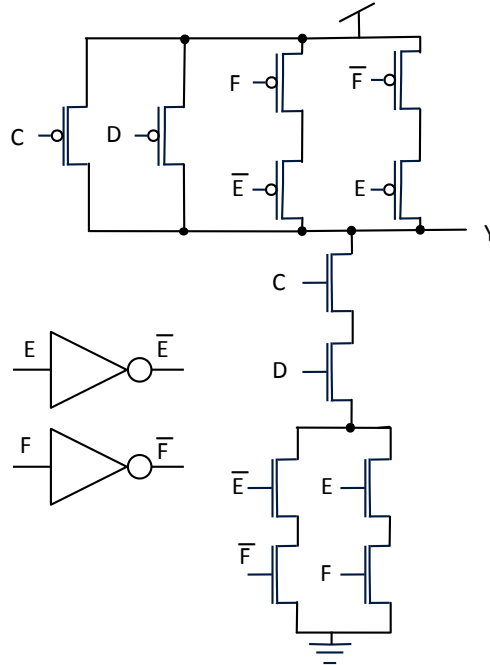
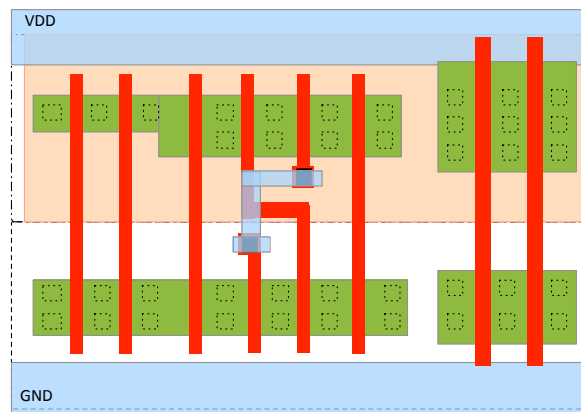

Figure 2: The schematic for a cell comprising one compound gate and two inverters.
Figure 3: Layout template for task 3 a). The template is repeated twice on tear-off sheets at the end of the exam.
Consider the cell shown in Fig 2, comprising a compound gate and two inverters. Your task is to complete the layout using the template in Figure 3. As you can see from the template two poly lines have to cross for the layout to be possible with single-line-of-diffusion for both the n-net and p-net.
- What is the parasitic delay for your layout of the compound gate? Calculate the parasitic delay also from the schematic shown in Figure 2 and compare the two results. (2 p)